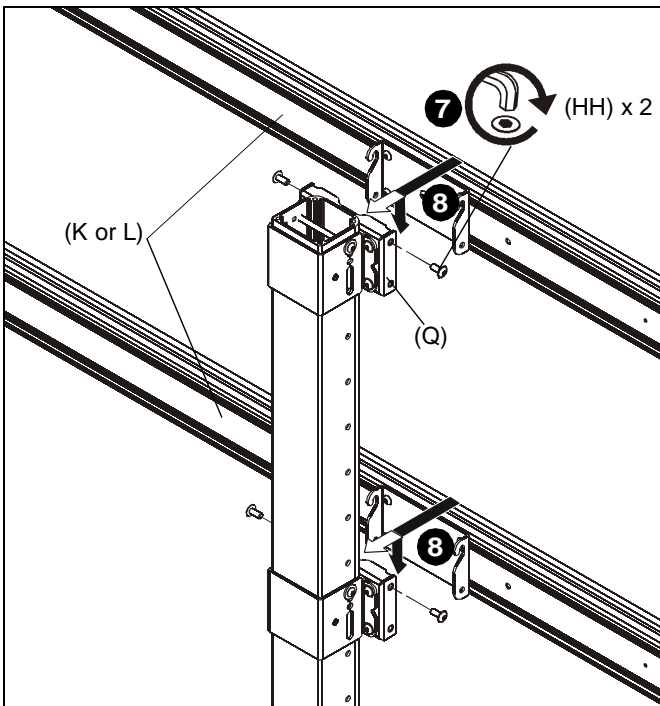

Figure 12
- Install two 5/16-18 x 3/4" button head flange screws (HH) into the top holes on each quick connect base (Q). (See Figure 12)
- Hang rails (K or L) into screws installed in previous step to quick connect bases (Q). (See Figure 12)